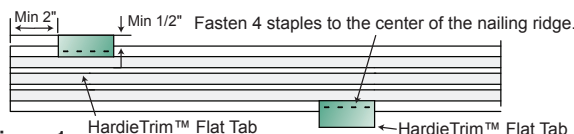

Figure 1
Step 1: Attach HardieTrim Flat Tabs to the back side of the trim using four(4) 18 ga. 1/2"L x 1/4"W narrow crown corrosion resistant staples, equally spaced in one row, positioned no closer than 1/2" from trim edges using a pneumatic staple gun. (Figure 1)